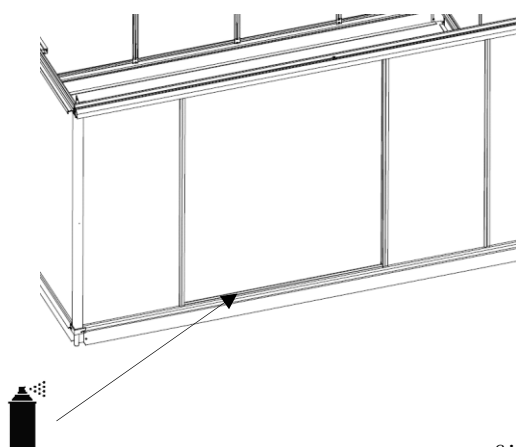

fig. 125
- to make it easier to insert the sliding doors, the track of the sliding doors must be sprayed with silicone spray. (fig. 125)